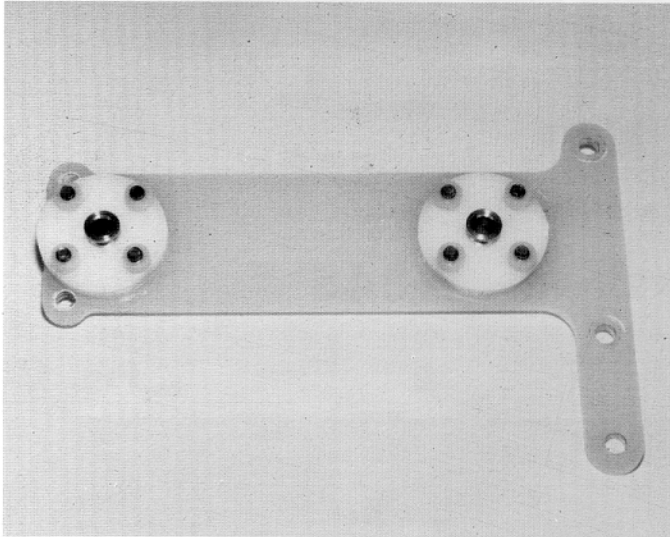

Fig. 13
□ **Figs. 13 & 14**—Now assemble and mount the second rear socket assembly like you did the first one. Except in this socket, the ball MUST BE VERY FREE, BUT NOT LOOSE. Now see if the ball is PERFECTLY FREE. If it is, good, leave as is.